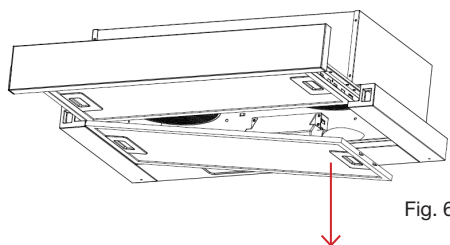
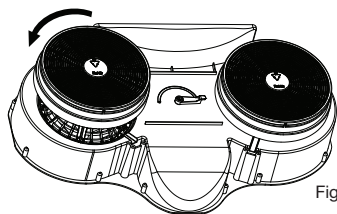

Fig. 6
Fig. 8
3. Remove the aluminium grease filters (Fig. 6. on page 10) from the underside of the rangehood. Turn the switch in the centre of the motor housing to “External Outside Ducting” position (Fig. 1)
4. Remove the charcoal filters by twisting anti-clockwise (Fig. 8 on page 11). The charcoal filters are not required for “external outdoor ducting mode”
To ensure that the mode is correct, remove the grease filters (see Fig. 6) and check that the switch is in "Recirculation mode" position (Fig. 1).
To remove the charcoal filters you will first need to remove the grease filters (see Fig. 6), now twist anti-clockwise and pull down as shown in Fig. 8.